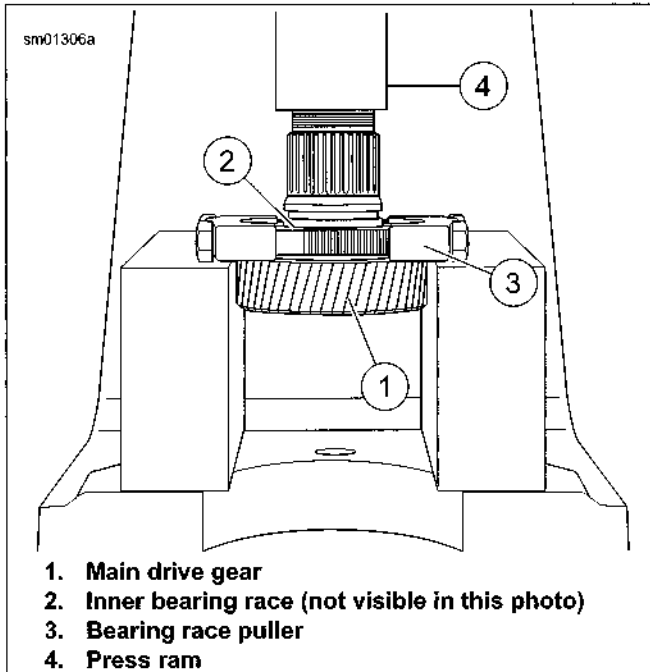

Figure 5-46. Removing Inner Bearing Race from Main Drive Gear
- See Figure 5-46. Attach BEARING RACE PULLER (Part No. HD-95637-46B) (3) to inner race (2) on main drive gear (1).